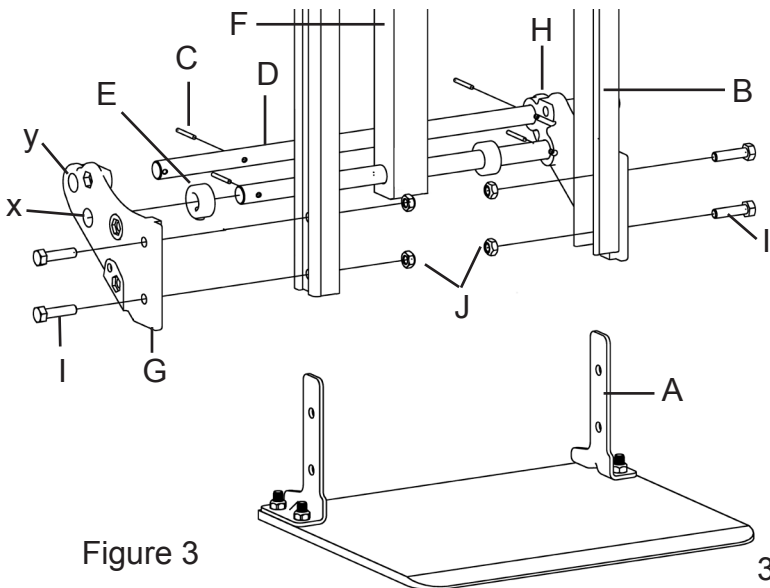
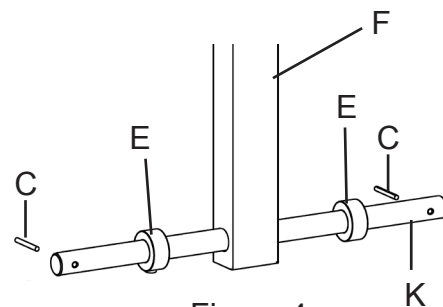

Figure 3
Figure 4
- Slide the frame (B) down and over the RH and LH nose mounting brackets on the nose plate assembly (A), temporarily inserting one 5/16"-18 x 1-1/4" long hex head screw (I) through the upper hole of the LH nose mounting bracket and the upper frame mounting hole.
- Position and attach the RH wheel bracket (G) to the outside of the frame leg, aligning the mounting holes with the frame and RH nose mounting bracket holes. Insert two 5/16"-18 x 1-1/4" long hex head screws (I) through the wheel bracket mounting holes and thread on one 5/16"-18 hex lock nut (J) (see Figure 3). NOTE: Do not tighten securely at this time.
- Install the first roll pin (C) in the rear support mount (K), tapping lightly with hammer to center the pin on the support mount (see Figure 4).
- Slide one shaft collar (E) onto the support mount (K). Next slide on the rear support brace (F) followed by the second shaft collar (E) (see Figure 4). Do not tighten the shaft collars against the support mount at this time.
- Install one roll pin (C) in the axle (D), tapping lightly with hammer to center the pin on the axle.
- Insert the support mount (K) (the end with the roll pin in place) through the lower axle hole in the RH wheel bracket (G) (labeled x on Figure 3). NOTE: Rotate support mount until roll pin "locks" into position in the wheel bracket.
- Insert the axle (D) (the end with the roll pin in place) through the upper axle hole in the RH wheel bracket (G) (labeled y on Figure 3). NOTE: Rotate axle until roll pin "locks" into position in the wheel bracket.
- Position and attach the LH wheel bracket (H), sliding it over the axle and support mount to the outside of the frame leg. Insert one 5/16"-18 x 1-1/4" long hex head screw (I) through the bottom mounting hole of the wheel bracket, frame and nose mounting bracket; then thread on one 5/16"-18 hex lock nut (J). Remove the upper 5/16"-18 x 1-1/4" long screw and re-install through the upper mounting hole of the wheel bracket; thread on one 5/16"-18 hex lock nut (see Figure 3). NOTE: Do not tighten securely at this time.
- Install the other roll pins (C) in the support mount and axle, tapping lightly with hammer to center.